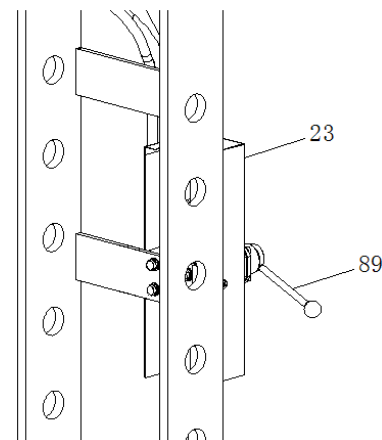

fig.9
8.4.5 Take out the handle for selector (89) and assembling it to the selector(23)(Refer to Fig.9)